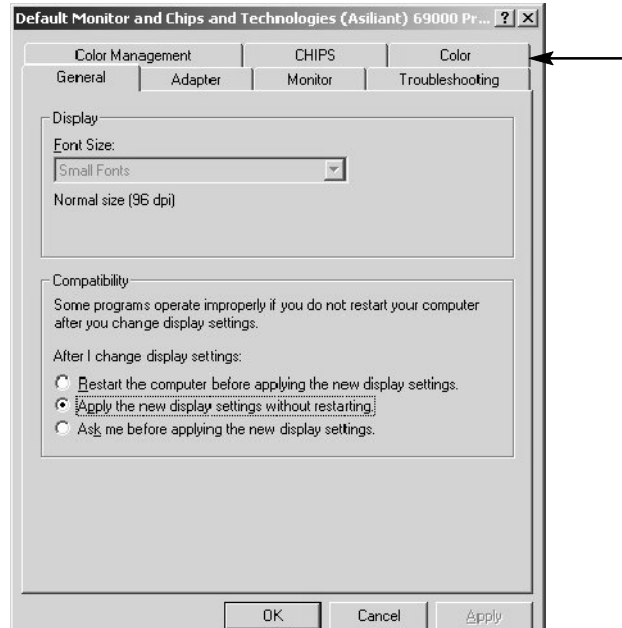

Figure 14: Color tab
5. Click the Color tab. See Figure 14.